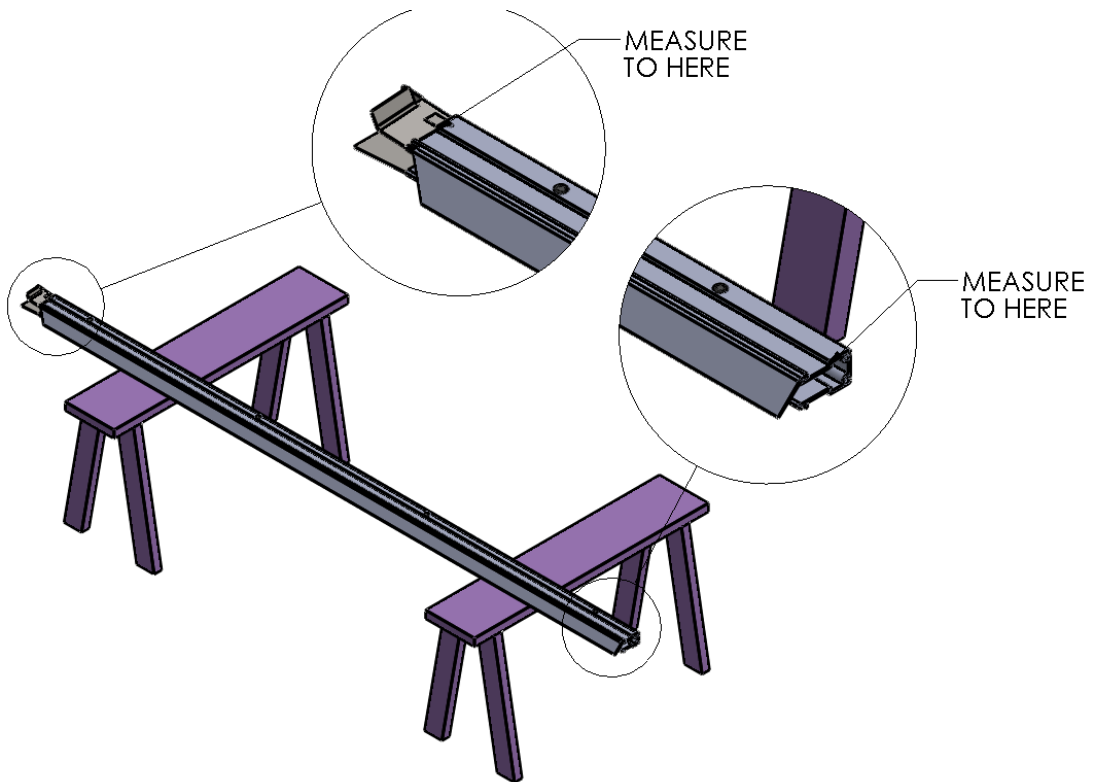
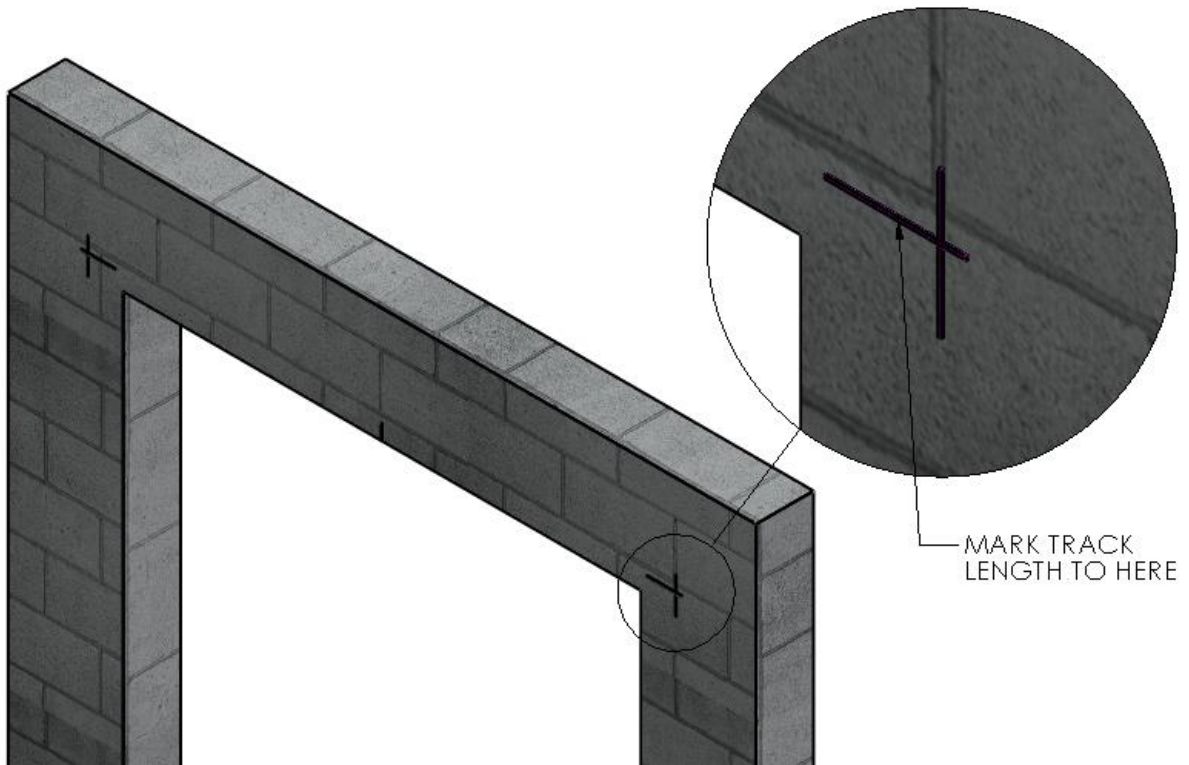

Figure 4 MEASURE TRACK HEIGHT
Figure 5 MARK TRACK HEIGHT
5. Set one of the Vertical Track Assemblies on your work surface and measure the length of the vinyl Track only. ADD 3-1/4" to this number and take note. This is the height dimension needed to mark the location of the bottom edge of the Header Mounting Brackets. With this number, add a horizontal line on each side of the opening that intersects the previously drawn vertical line marking the overall width of the roll assembly. (Figure 4 MEASURE TRACK HEIGHT) (Figure 5 MARK TRACK HEIGHT)
6. Using two (2) people, and two ladders at minimum, raise the Header Assembly to fit between, and below, your markings on the wall. Trace the insides of its oval mounting slots onto the wall mount surface (a Sharpe permanent marker works great for this). Be sure that its top edge is on the height line, and that the outer edge is on your vertical overall width line.
7. Predrill through the centers of the traced locations for the mounting hardware, three (3) pilot holes on each side.